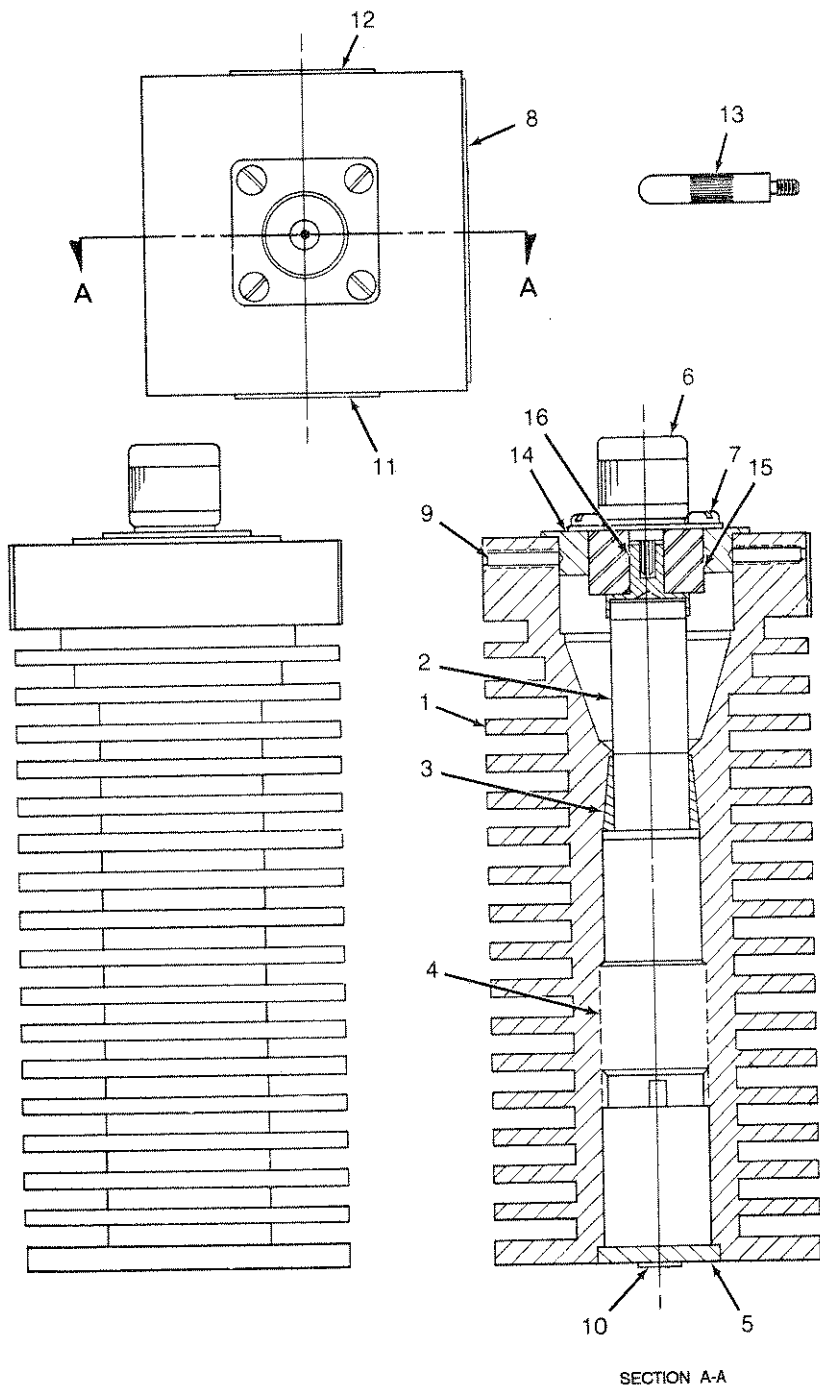

Figure 1. Model 8164-045 Terminal Load Resistor
Figure 1 is a parts illustration of the Coaxial Load Resistor. Along with the illustration is a parts list containing all of the replaceable components of the Coaxial Load Resistor. If a part is found to be defective, and is not contained in this list, it is not available for replacement and the assembly to which it belongs must be replaced. The parts list is broken down into the following column structure:
- a. INDEX NO. The numbers in this column identify the location of parts within an illustration. For example, the INDEX NO. 1-3 describes item 3 located within Figure 1.
LEGEND FIGURE 1